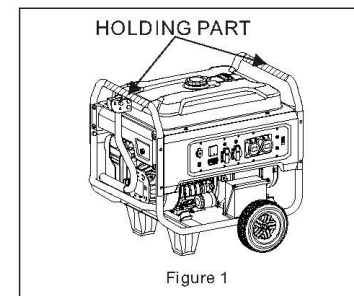

Figure 1
- To transport the generator, hold the holding part (shaded areas in Fig.1).